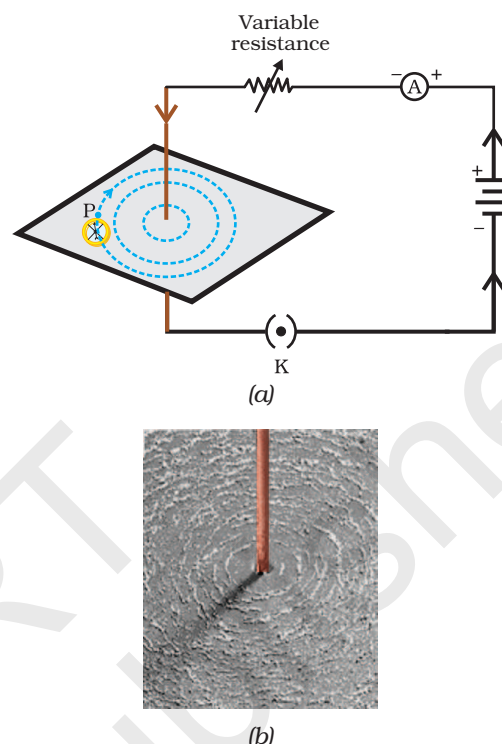

Figure 13.6
- Connect the copper wire vertically between the points X and Y, as shown in Fig. 13.6 (a), in series with the battery, a plug and key.
- Gently tap the cardboard a few times. Observe the pattern of the iron filings. You would find that the iron filings align themselves showing a pattern of concentric circles around the copper wire (Fig. 13.6).
What happens to the deflection of the needle if the compass is moved from the copper wire but the current through the wire remains the same? To see this, now place the compass at a farther point from the conducting wire (say at point Q). What change do you observe? We see that the deflection in the needle decreases. Thus the magnetic field produced by a given current in the conductor decreases as the distance from it increases. From Fig. 13.6, it can be noticed that the concentric circles representing the magnetic field around a current-carrying straight wire become larger and larger as we move away from it.